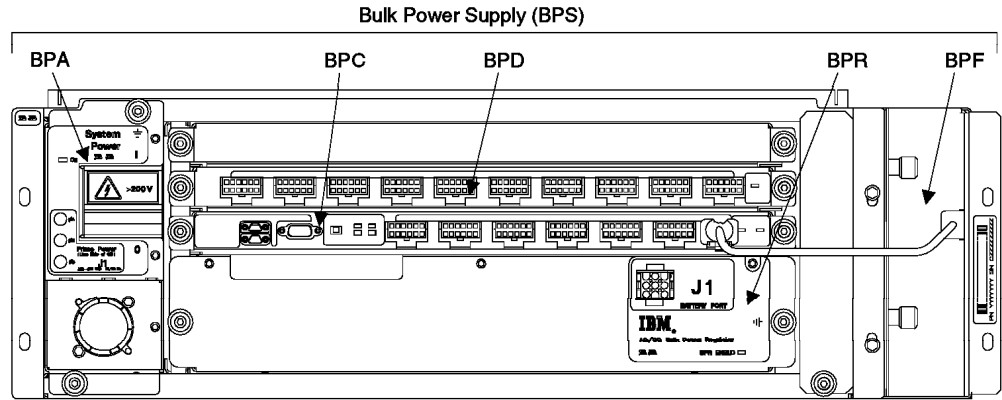

Figure 59. BPS Component Locations (t007488m)
15. Use Figure 59 on page 78 to locate the bulk power supply component you are replacing: BPC, BPD, or BPR.